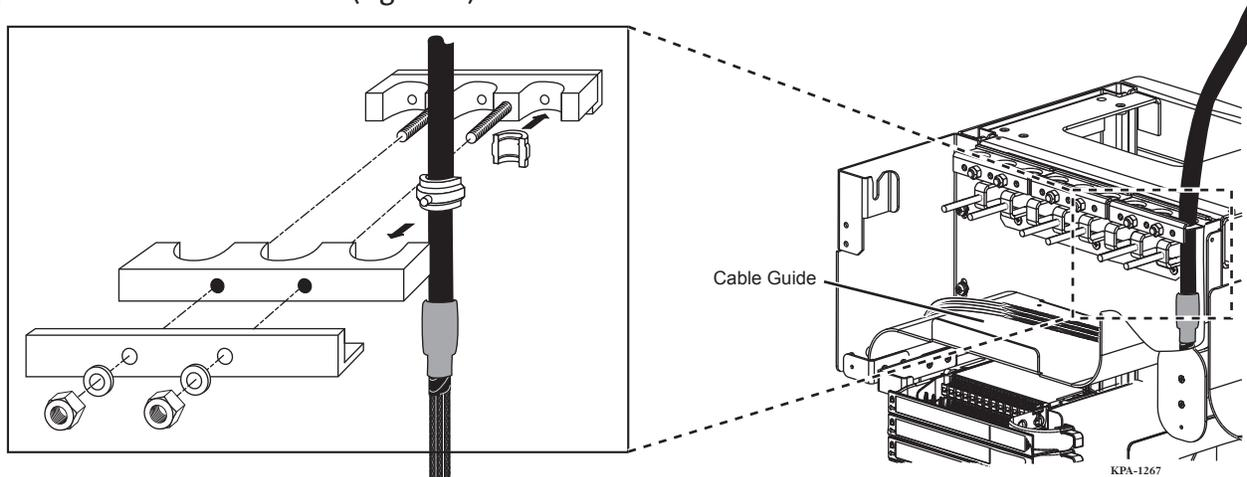

Figure 23
Step 2: Strain-relieve the cable (Figure 23).